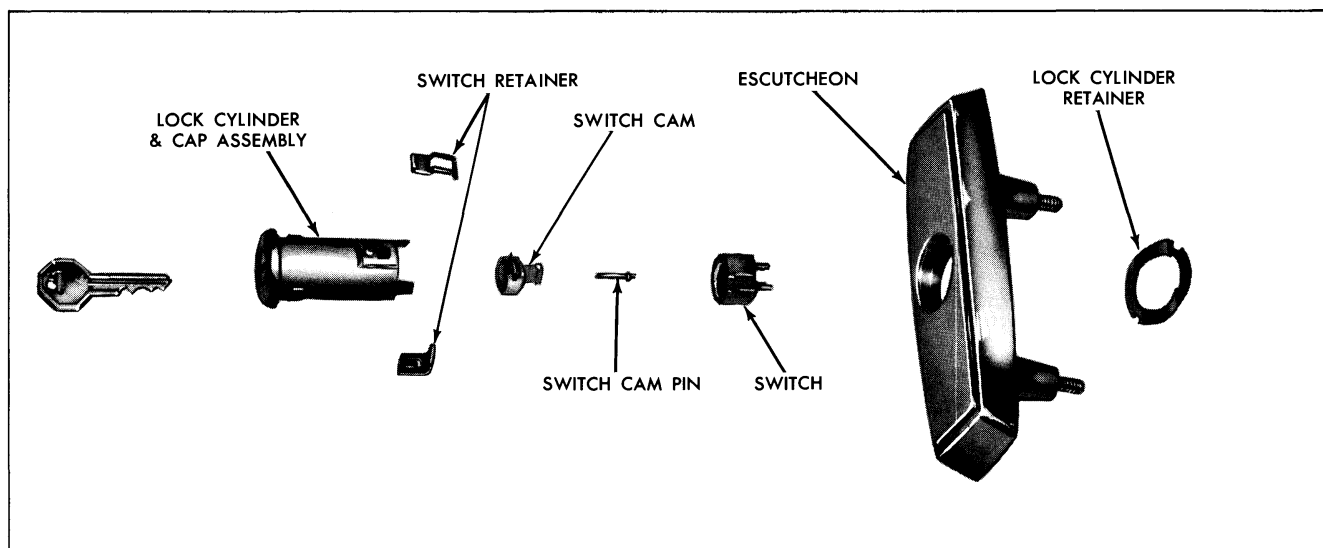

Fig. 5-15 Lock Cylinder, Switch and Escutcheon
2. Disengage lock cylinder case and switch retainer (Fig. 5-15) and remove lock cylinder case and switch from escutcheon.
3. Using a pointed tool inserted through holes in lock cylinder case, depress tab of switch retainers and remove retainers and switch (Fig. 5-15).
4. Using a suitable pliers, grasp pin of switch cam firmly and pull switch cam straight out from lock cylinder (Fig. 5-15).